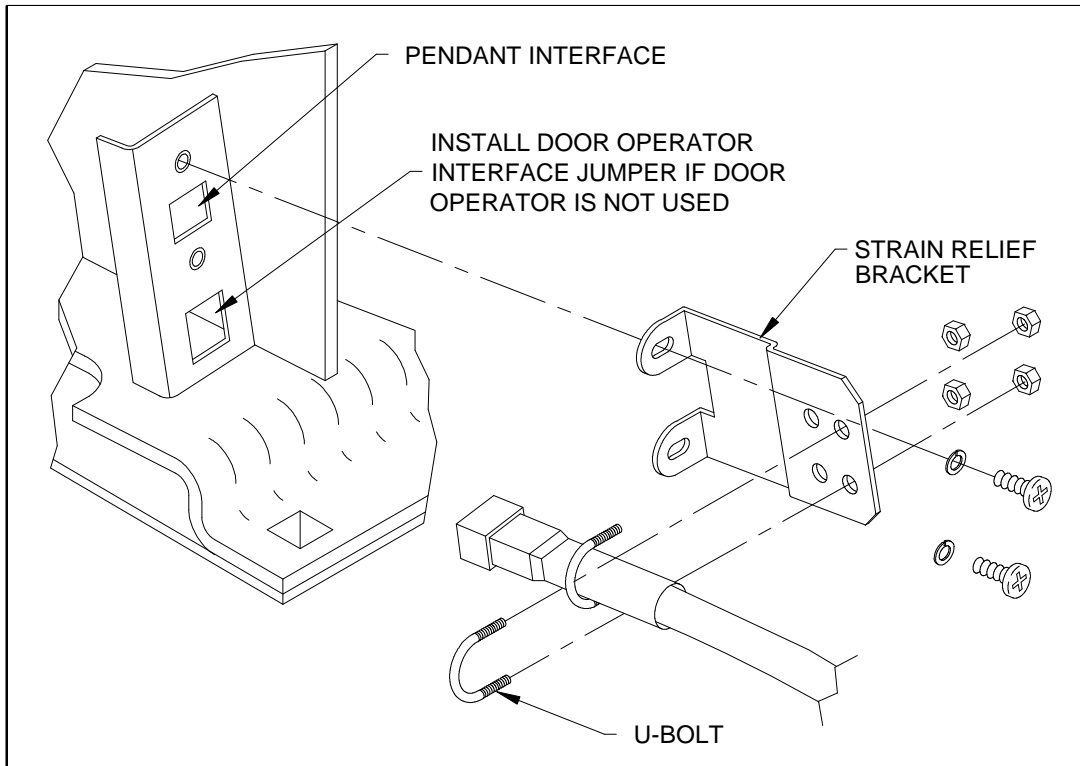

FIGURE 2-12: STRAIN RELIEF KIT
- f. Refer to **Figure 2-12**. Connect appropriate RICON lift control interface to lift and secure control cable to vehicle floor with the supplied cable clamp.